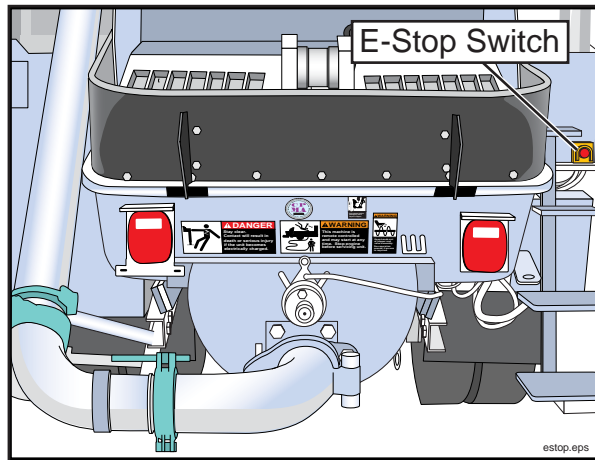

Figure 74
- 16.1 **WARNING** You must know how to stop the pump and boom. Have the operator show you the locations of the emergency stop switches (Figure 74).